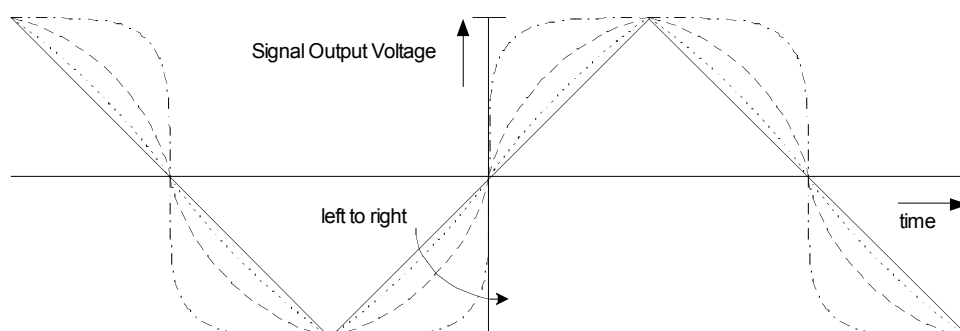

Fig. 8.4.2 Signal distortion on a triangle waveform
Fig. 8.4.2 shows as an example how a triangle waveform is treated with increasing distortion. The 'Signal Output Voltage' is shown for several positions of the **[distortion]-knob (5)**.